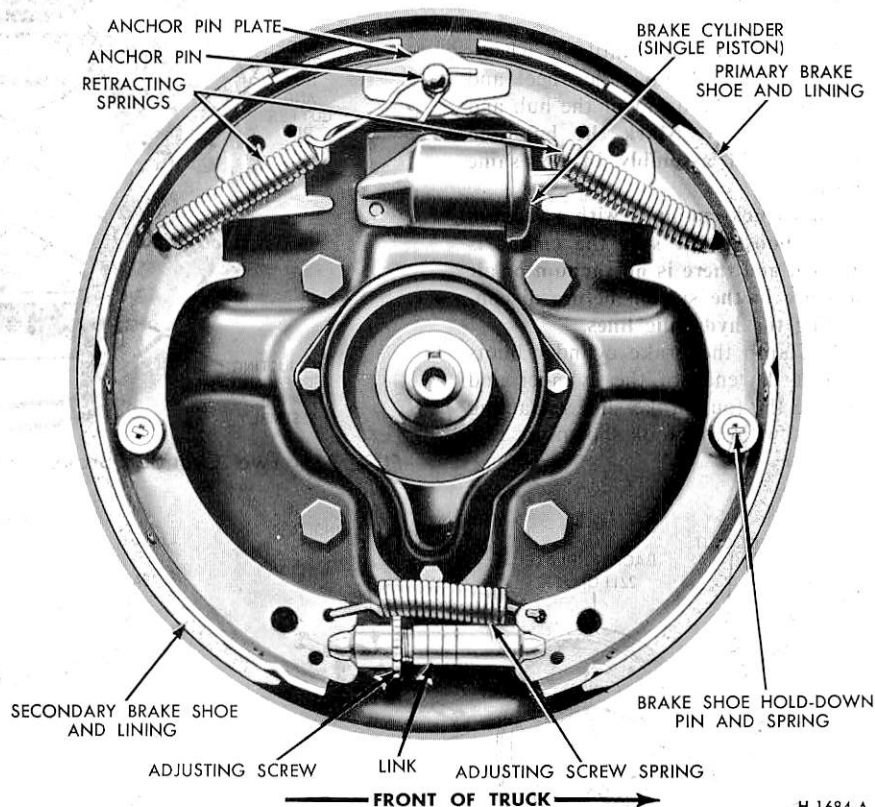

FIG. 20—Single Anchor Brake Shoe—Front—P-500-5000 Series
Refer to Figure 20.
3. Remove the anchor pin plate (Fig. 20).